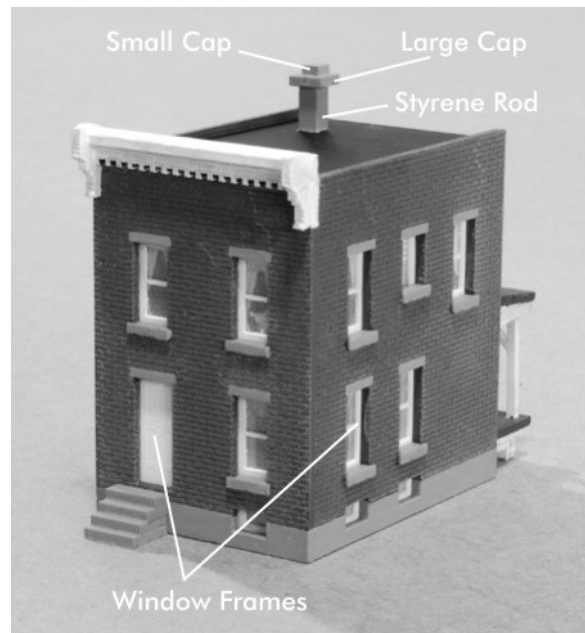

Figure 8
Window frame assemblies should be glued into the building behind the appropriate wall using super glue (CA). Note that solvent based liquid glue cannot be used to glue window frames in place as it will cause them to curl and detach. See Figure 8.
Create the chimney by taking the 3/8" piece of styrene and gluing on the large chimney cap to one end. Glue the smaller chimney cap on top of the larger one using the engraved line for placement. Glue chimney to roof. See Figure 8.
Assemble the stairs by stacking the parts up and glueing together. The front stairs have four steps, and the back stairs have three steps. You may glue them directly to the building. You may wish to leave the steps off the back of the building so they may be used with the porch as described below. See Figure 8.